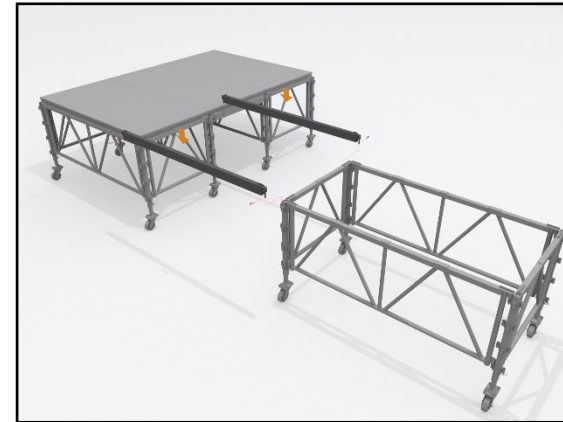

Fig. 30 – Assemble additional substructure
9.1.8.1 Assemble another rectangle of Gates separate to the first bays in close proximity. *Fig. 30 – Assemble additional substructure*